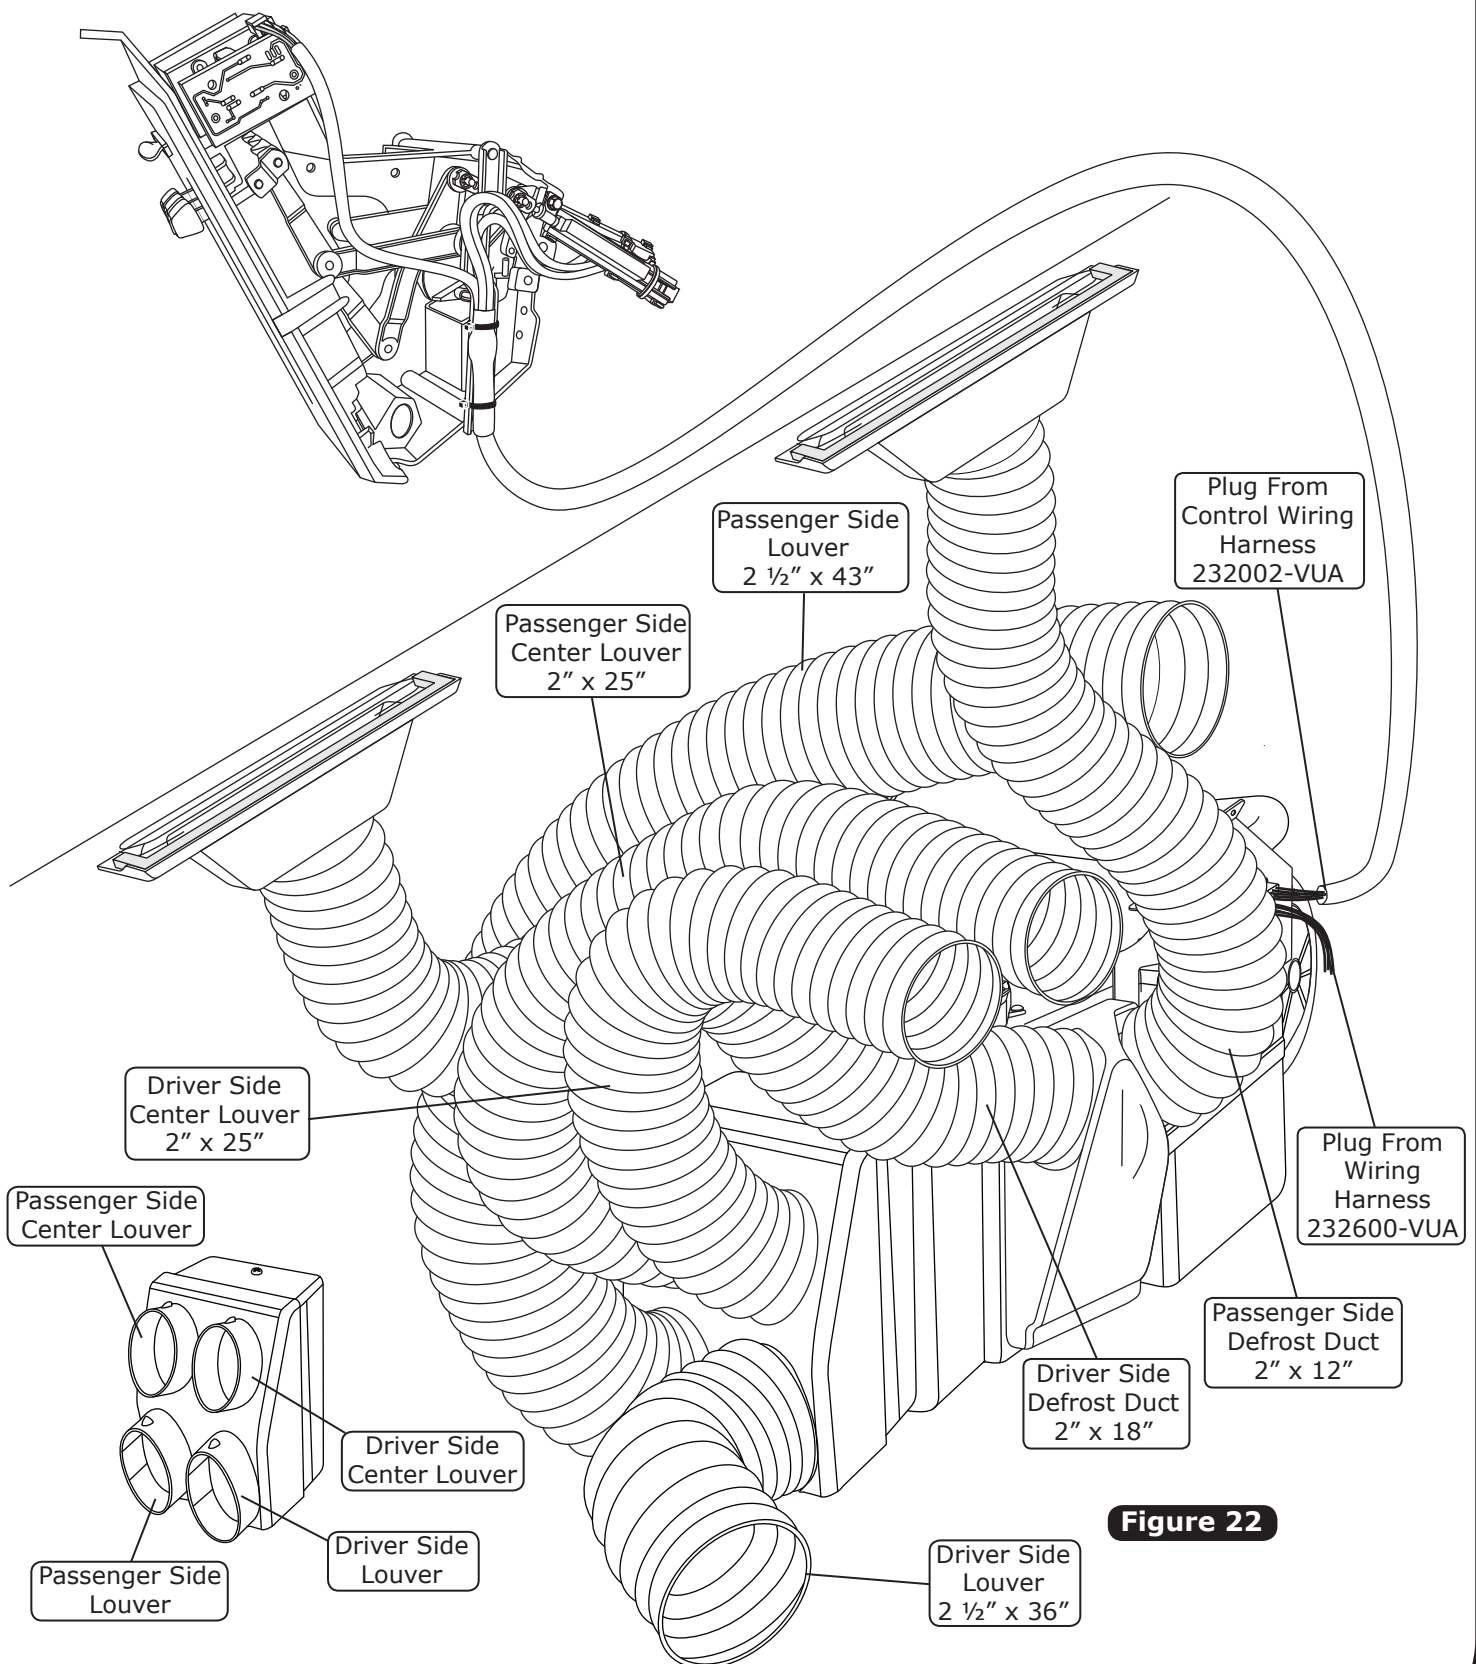

**Figure 21**
1. Install the new glove box into the glove box opening, and secure it using #8 x 1/2" pan head screws through the OEM holes (See Figure 21, below).